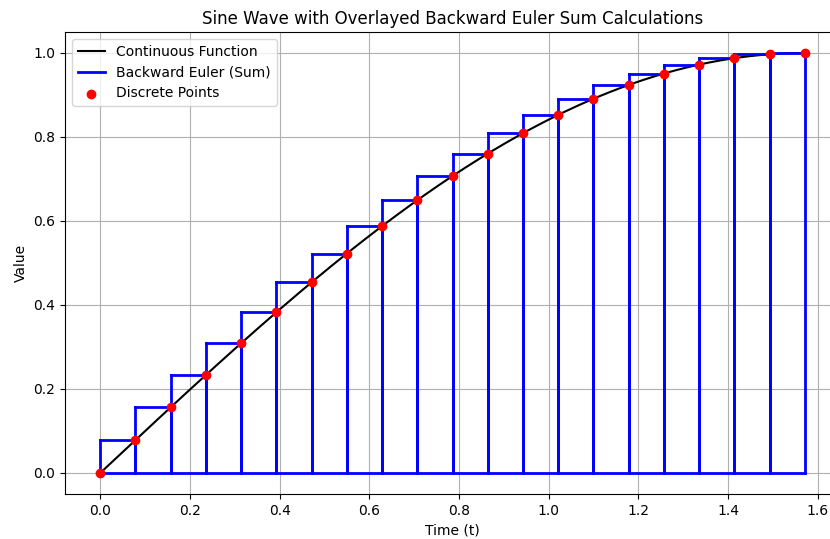

Figure 13: Backward Euler Discretization of the Integral Term
- The integral term accumulates the error over time, summing up all past errors. Applying a control signal proportional to the integral-error helps reduce steady-state error. To approximate this integral, we use the commonly-chosen Backward Euler method [9], which updates the integral (sum) by adding the product of the current error and the timestep. Note that the computation of the `i_term` comes after the addition of the integral in this approximation. See Figure 13 for a visual representation of the Backward Euler method.